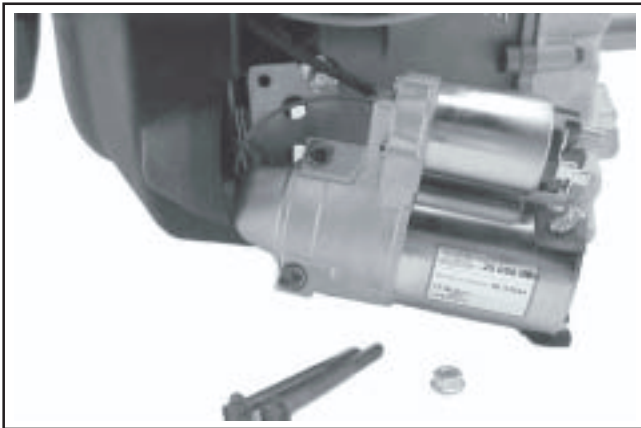

Figure 9-2. Removing Starter Assembly.
2. Remove the two hex. flange screws securing the starter to the adapter plate. See Figure 9-2.